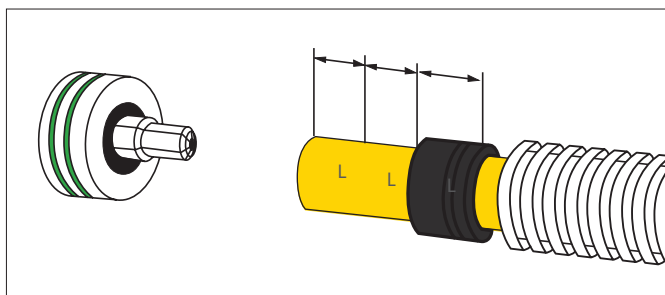

Fig. A2-3 Minimum of free pipe length to complete expansion process
- To complete a REHAU compression sleeve joint, RAUGUARD must be pushed away from the cut pipe end by a minimum of three times the length of the compression sleeve. This will allow an unrestricted expansion process of the pipe. (see Figure A2-3).